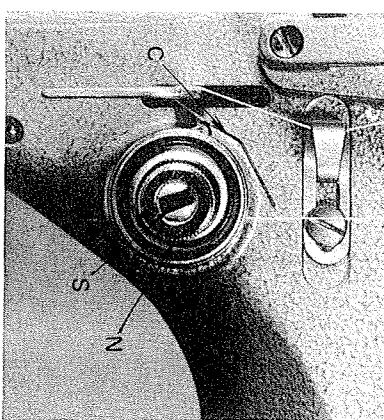

Fig. 10
The pressure of the presser foot should be adjusted according to the type of material to be sewn. The heavier the material, the heavier the pressure; the lighter the material the lighter the pressure. The pressure of the presser foot on the material is regulated by the Regulator Screw (R) (Fig. 10) on the top of the machine. Turn this regulator to the left to decrease it. Do not employ more foot pressure than is required to feed the material properly.